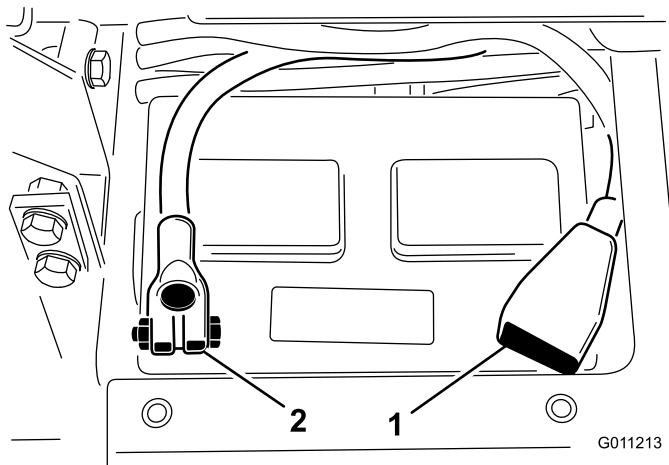

Figure 5
8. Install the positive cable (red) to the positive (+) terminal and the negative cable (black) to the negative (−) terminal of the battery and secure them with bolts and nuts (Figure 5). Make sure that the positive (+) terminal is all of the way onto the post and the cable is positioned snug to the battery. The cable must not contact the battery cover.